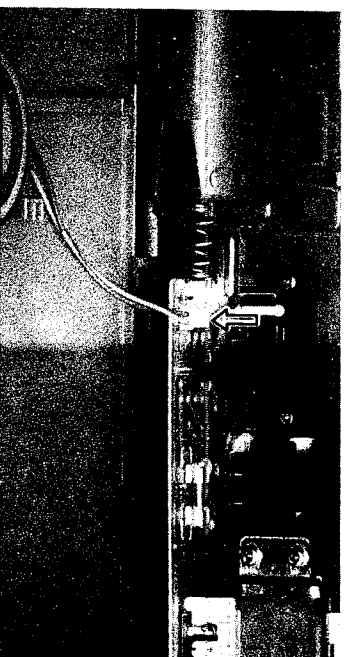

Figure 5-4
4. Remove one socket from the power P.W.B. located at the lower of the back cabinet. See Fig. 5-4.